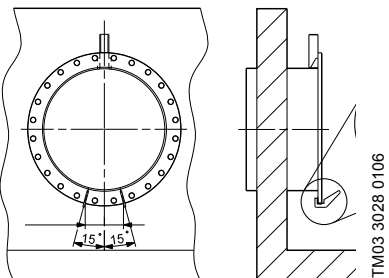

Fig. 4 Position of guide claws
3. SRG.xx.80.xx: Weld the guide claws to the connection flange. See fig. 4.